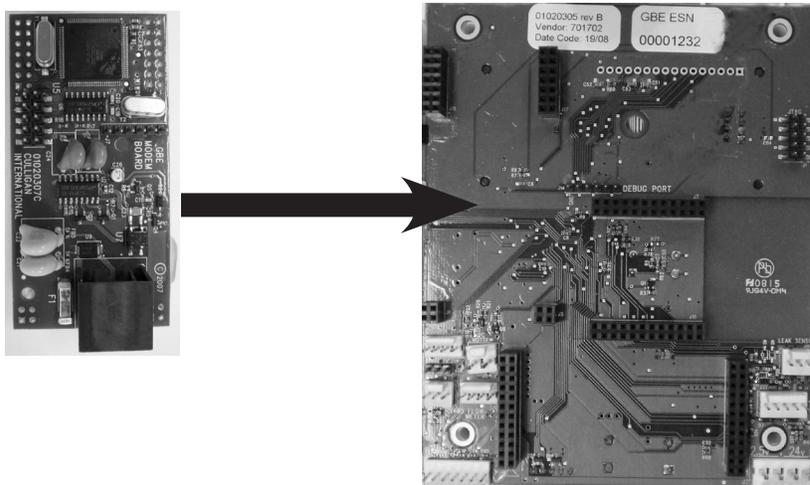
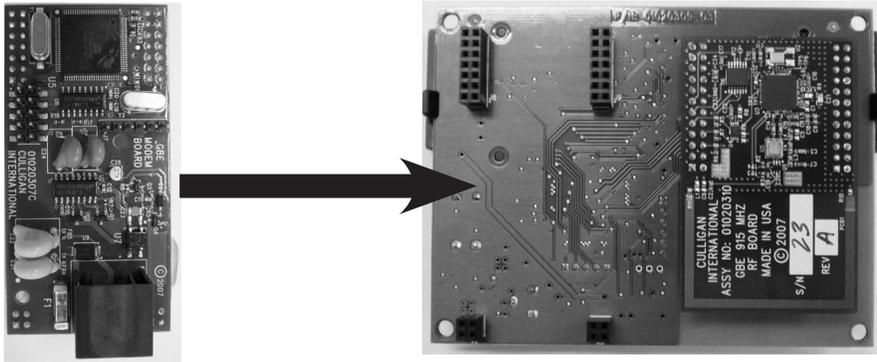

Figure 40.
Figure 41. Back of remote board.
1. Unplug the wireless remote before installing the modem into the back of the GBE board or the back of the remote. See Figure 40 and Figure 41.
Open the controller cover and locate the modem connection on the back of the board (see Figure 40). Insert line modem board (part number 01020747) into the socket on the back of the board. Make sure that all of the pins in all four connectors are aligned and make sure the modem is fully seated into all of the sockets.
Open the remote monitor housing by removing the two screws and squeezing the sides of the monitor housing slightly. Insert the modem board (P/N 01020747) into the socket on the back of the remote board (see Figure 41). Make sure that all of the pins in all four connectors are aligned and make sure the modem is fully seated into all of the sockets. Snap the two halves of the remote housing back together using light finger pressure and insert the two screws.